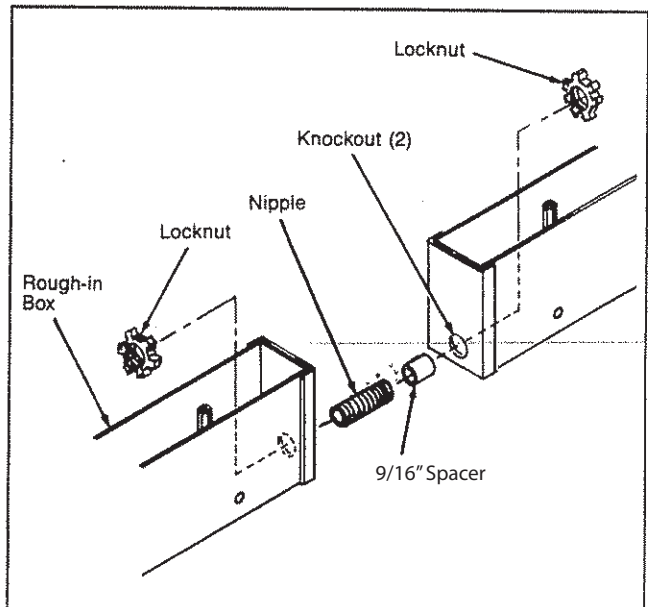

Figure 5.
2. Use a 1/2" chase nipple (1 1/2" long) and the provided 9/16" spacer between rough-in boxes and secure each end with 1 electrical locknut. See Figure 5